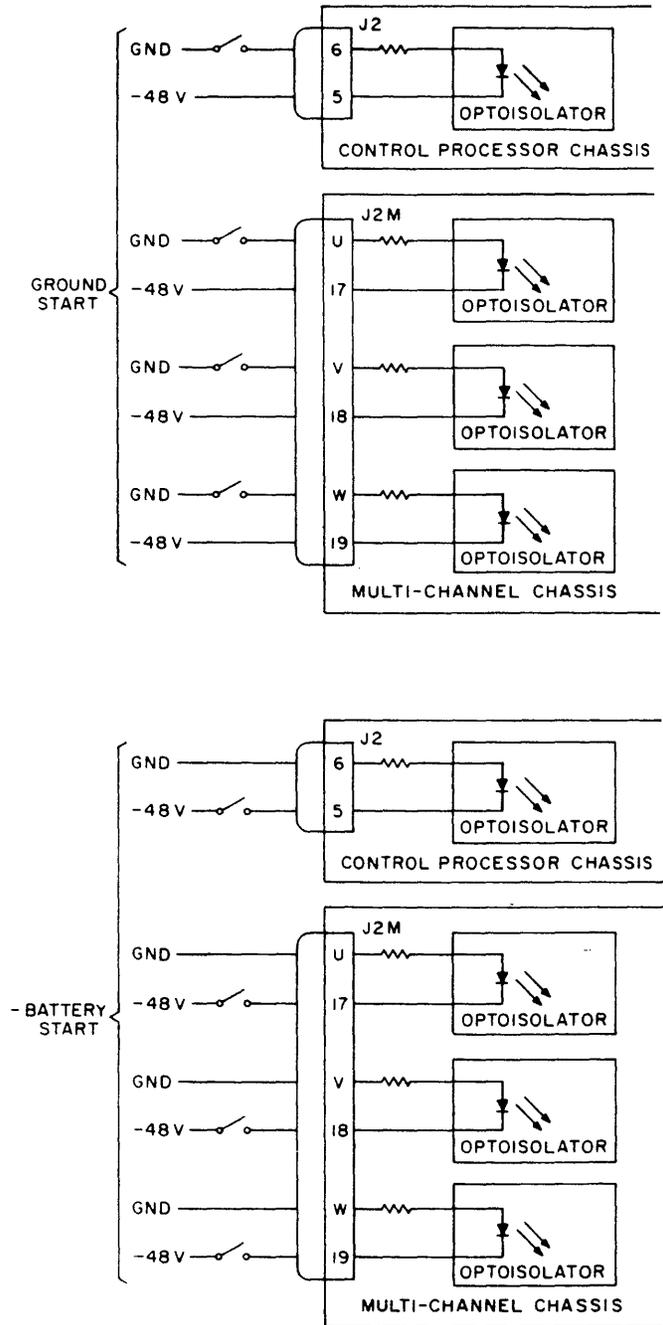

Fig. 5 - Start Mode Wiring Diagrams
4.17 Start Commands. When the digital announcer contains recorded messages and is put ON LINE, the unit is ready to accept start commands at the channel interfaces. The start command can be either a GROUND start or a -BATTERY start, as shown in figure 5.